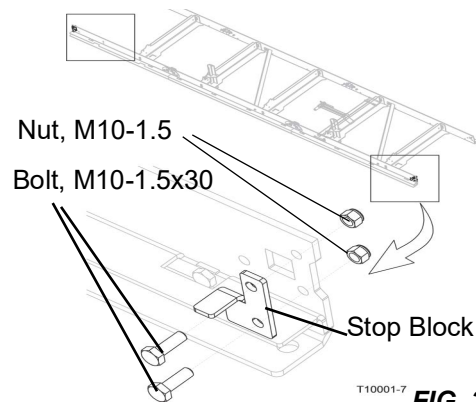

**FIG. 3-14**
1. Install the sawdust rail sweepers on the **front sides of both** carriages. Make sure that the sweepers contact the rails. See FIG. 3-14.